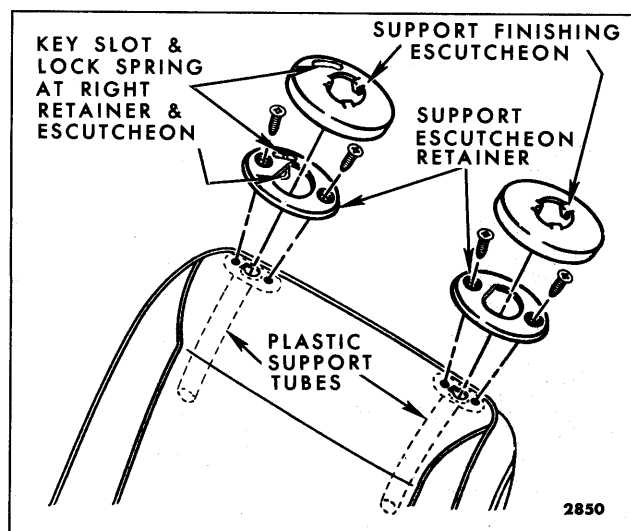

Fig. 15-38—Head Restraint Support Retainer and Escutcheon
2. Carefully snap off support finishing escutcheon and remove support escutcheon retainer attaching screws (Fig. 15-38).